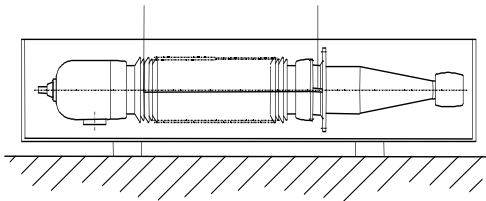

Fig. 7a
- Apply a second rope at the same two lifting holes (fig. 7a).
Apply the second rope at the two lifting holes (fig. 7a).